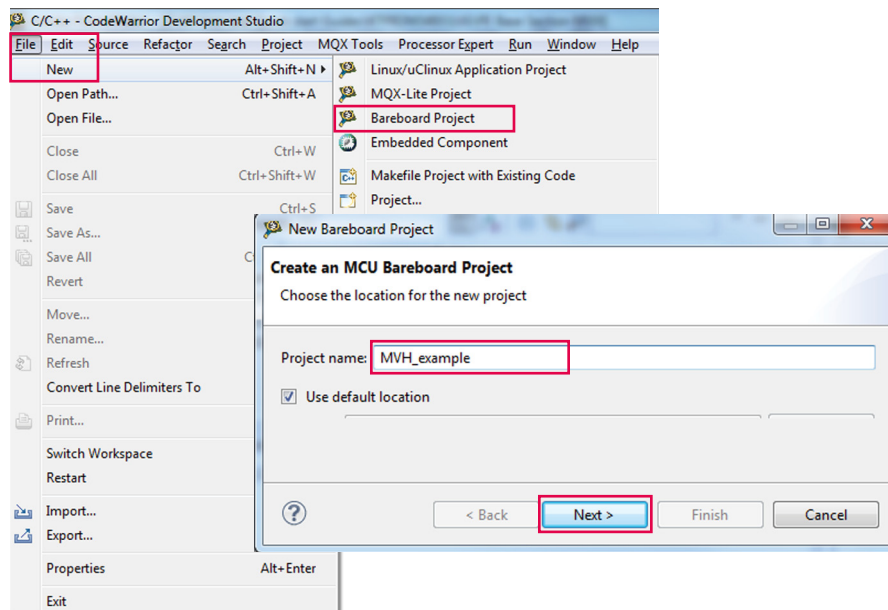

Figure 15. Creating a bareboard project
1. Create new Bareboard Project and name it (see Figure 15).